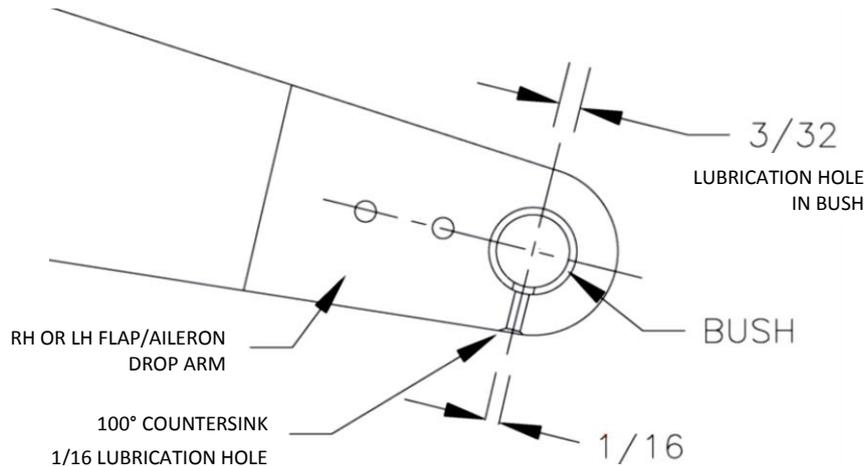

Figure 1 – Lubricating hole
- b. Drill a 1/16 inches lubrication hole in the aileron or flap drop arm, countersink at 100° and deburr. See Figure 1 as reference;